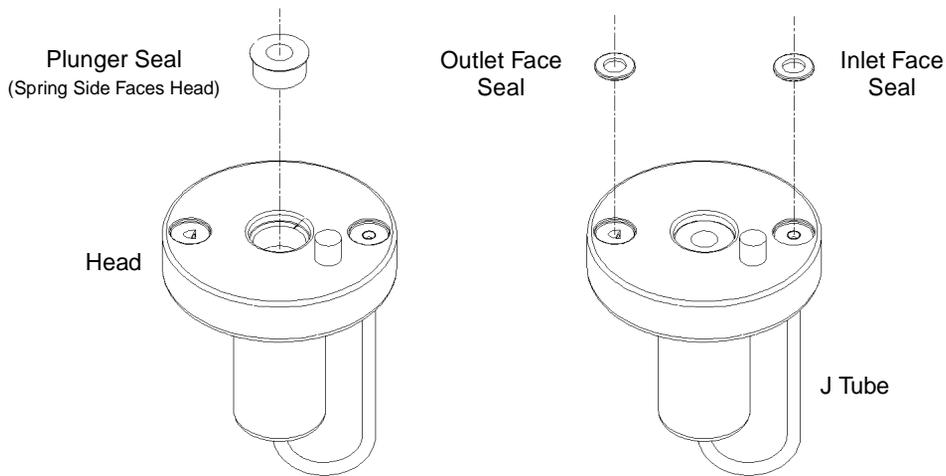

Figure 7-3 Plunger and Face Seal Orientation
**Note:** To ensure optimum performance, replace the plunger seal in a head when you perform service. Replace the face seals after you have replaced the plunger seal two or three times (see Figure 7-3).
2. Use the plastic end of the seal removal tool to remove the plunger seal from the head (Figure 7-3).
4. Place the new plunger seal on the seal insertion tool with the spring side facing away from the tool. Insert the tip of the tool into the plunger seal opening in the head (see Figure 7-3), then push firmly to install the seal.
2. Direct compressed air into the center of the face seal or use plastic tweezers to remove the inlet and outlet face seals from the seal openings in the head (Figure 7-3).